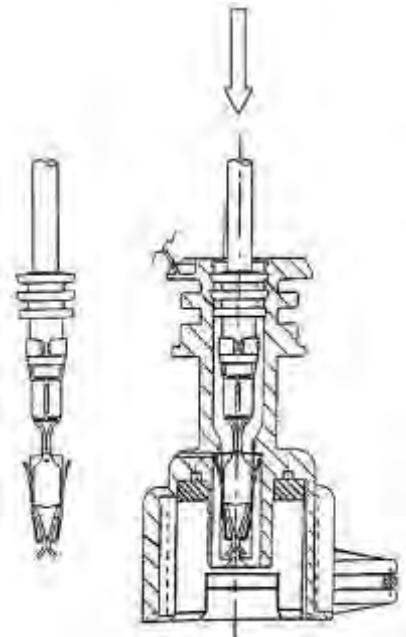

Figure 109
- (3) With contact aligned, push until a 'click' is felt and heard. Ensure wire seal is flush with the back of the connector housing.
- (4) Repeat b and c with other two wires as shown in Figure 109.